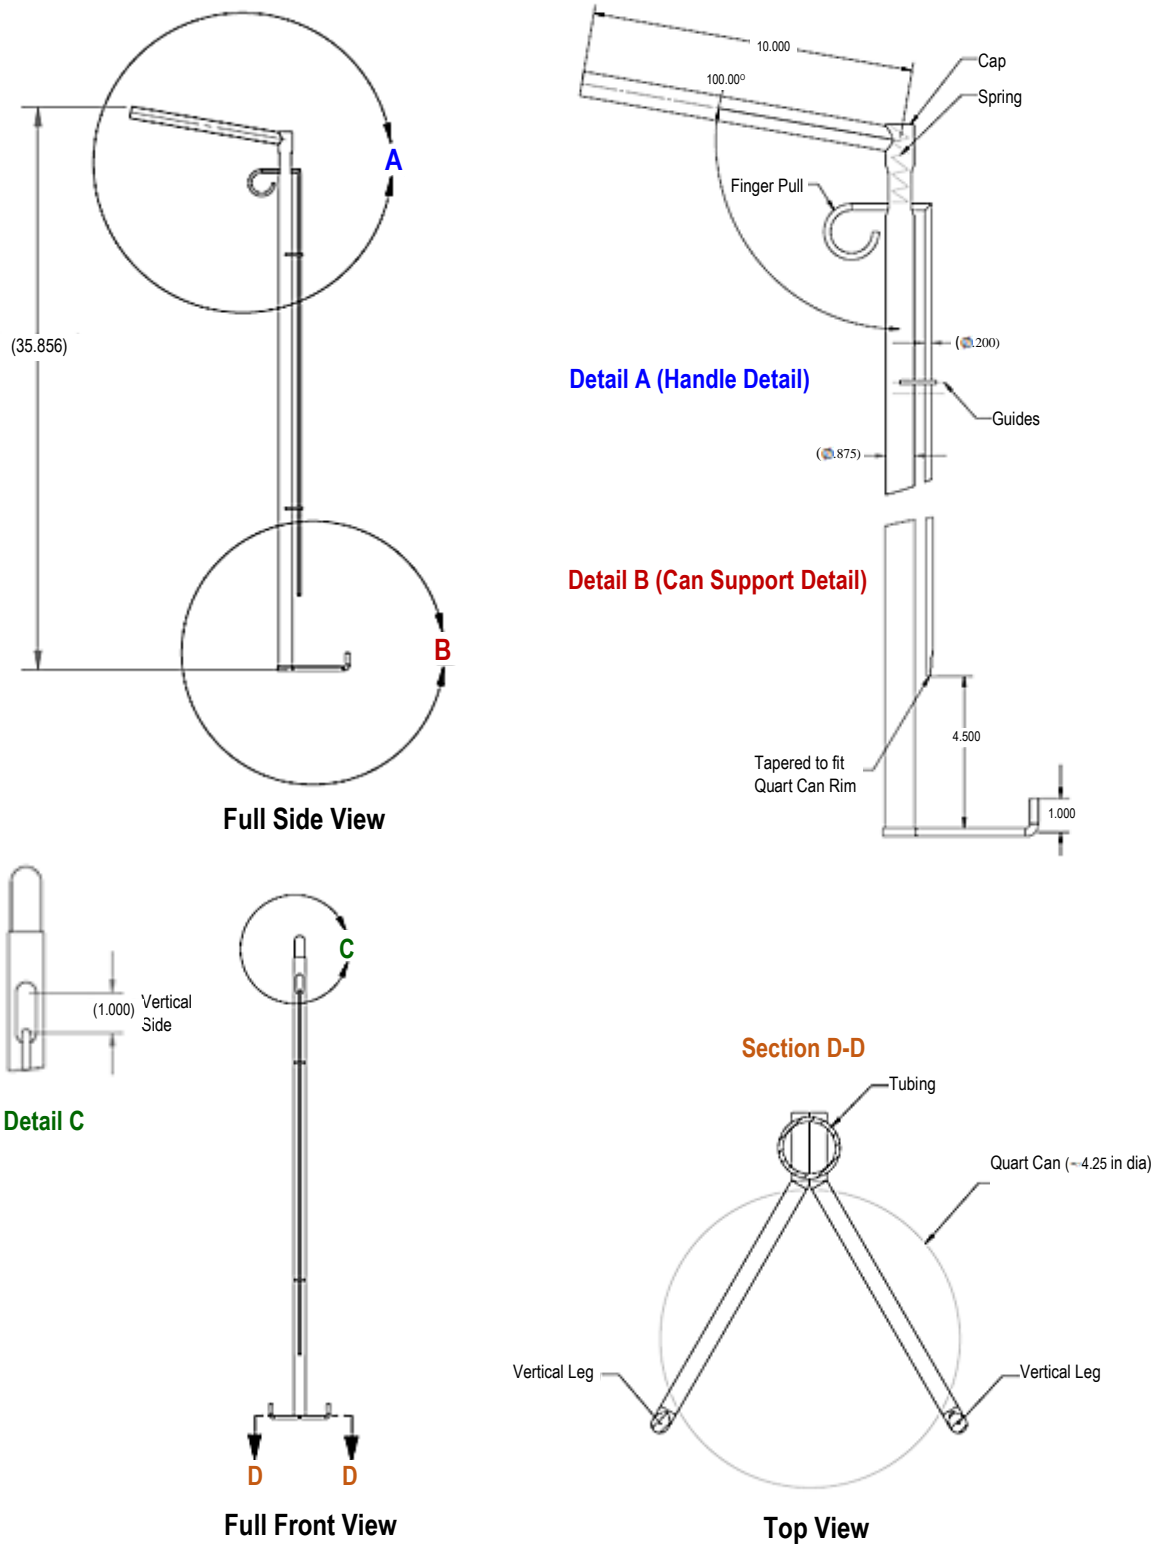

Figure 3
- 4.2.2.2 **Dip Method.** The container should be fitted with a stopper, removable by a string or wire when the container is at the proper depth in the tank. The sample is gently pulled out and transferred to a new container. Figure 3 shows a common type of Dip sampler.